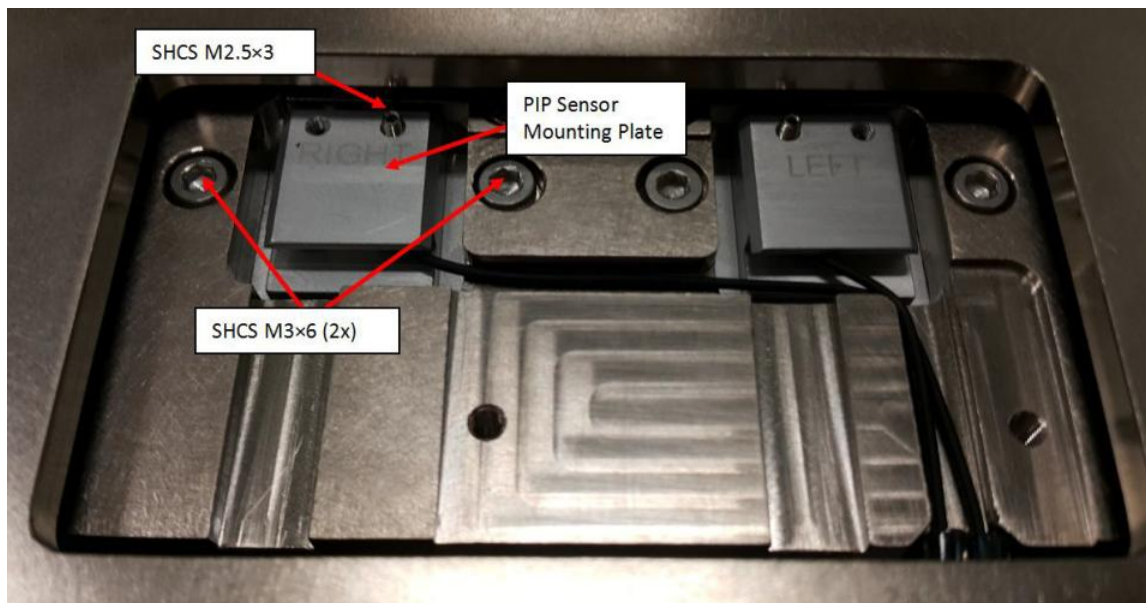
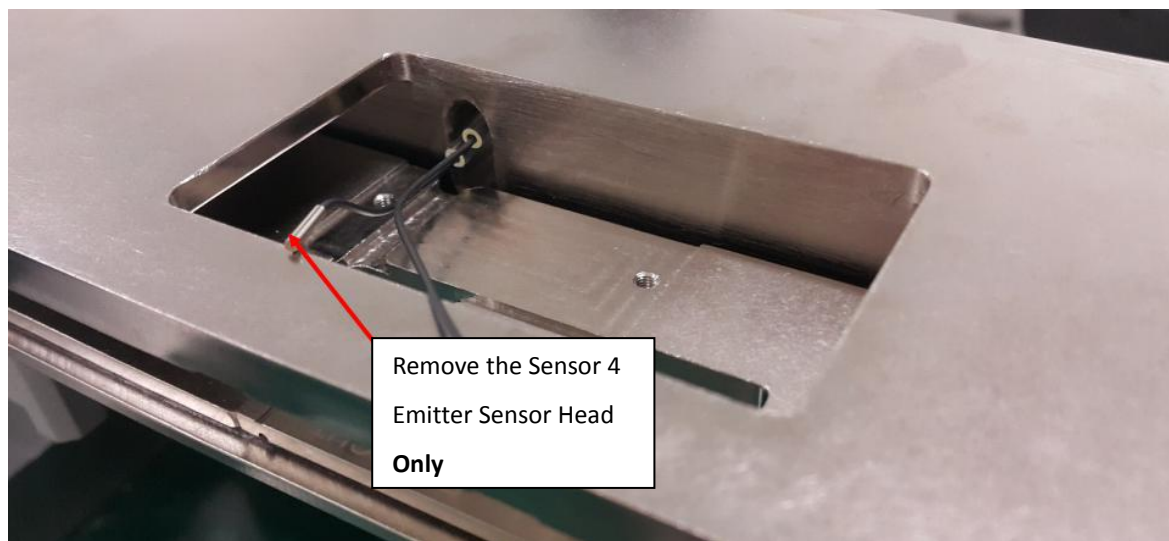

Figure 5 Sensor 4 Emitter
Figure 6 Sensor 4 Emitter (Sensor Head)
3. Open SHCS M3×6 (2x) from Sensor 4 Emitter as shown in Figure 5. Then loosen SHCS M2.5×3. Remove Optical Sensor 4 Emitter Head from pip sensor mounting plate as shown in Figure 6